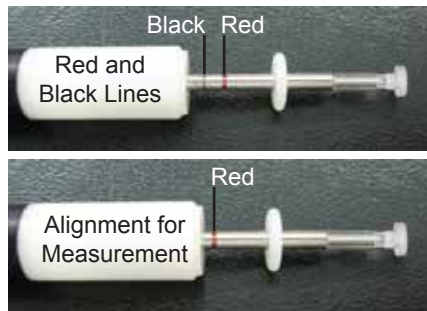

Figure 2-12, Probe Red and Black Lines
3. The Model 30 Pneumatonometer will display the OD and OS menu. Select OD or OS to start the test. Place the tip of the probe against the calibration verifier test eye and apply force until the probe shaft compresses to the point where the black line is no longer visible, but the red line is still visible. When the probe is between the red and black lines, the Model 30 Pneumatonometer will be ready to display the average IOP readings and its standard deviation. Refer to Figure 2-12.